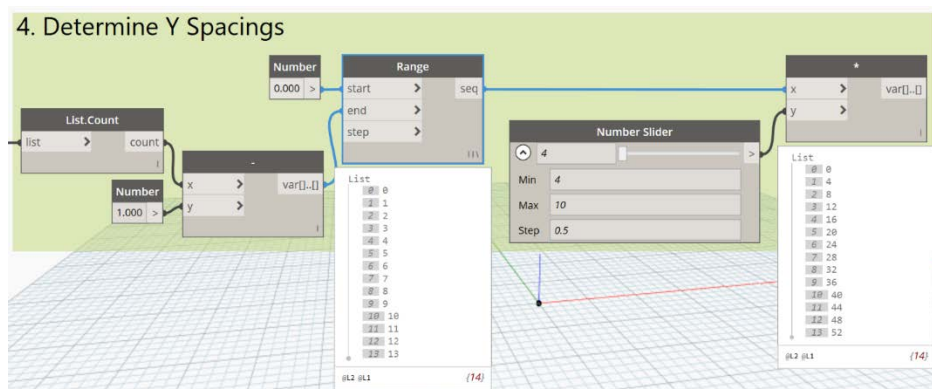

Figure 54
44. Run the graph (see Figure 54).